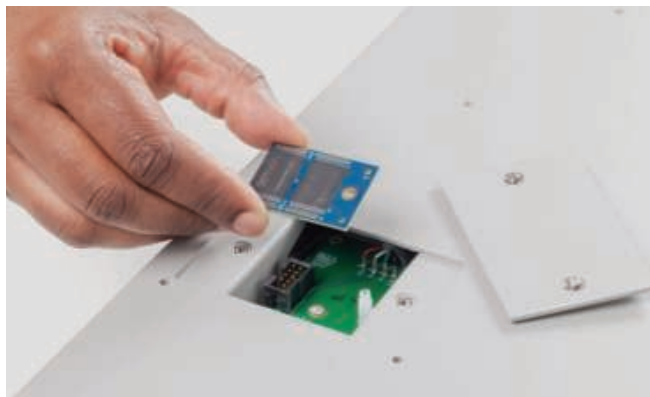
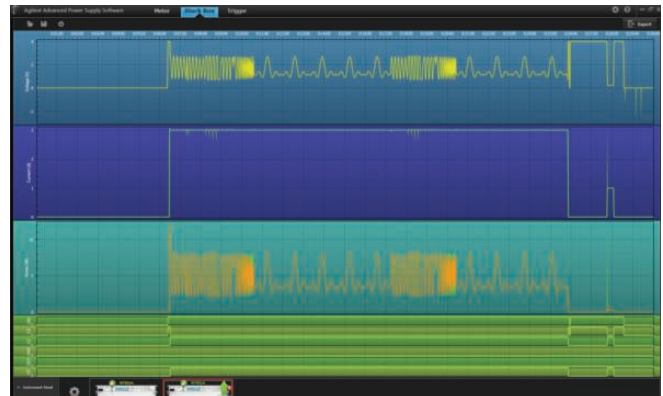

Figure 8. Installing the N7908A BBR hardware option on an APS power supply
Figure 9. Black box recorder data displayed within the N7906A Power Assistant software
Much like a flight data recorder, the N7908A black box recorder (BBR) runs continually in the background, independent of what the power supply is doing. When the power supply is on, the BBR is recording power events and storing measurements in non-volatile memory. The BBR can be set for either a 24-hour record or a 10-day record period. In the 24-hour mode, measurements are made at a rate of 100 per second, and in the 10-day mode they are made at a rate of 10 per second. The BBR data can be accessed via the free APS power assistant software (see *Figure 9* on page 9). The BBR is a user-installable hardware option, and it works in all APS N6900 and N7900 power supplies. You can purchase the N7908A BBR with an APS power supply or buy it later and install it in your existing APS power supply. The BBR hardware board plugs into the bottom of an APS power supply, as shown in *Figure 8*.
- Retrieve and view data from the optional APS power supply black box recorder (see Figure 9)